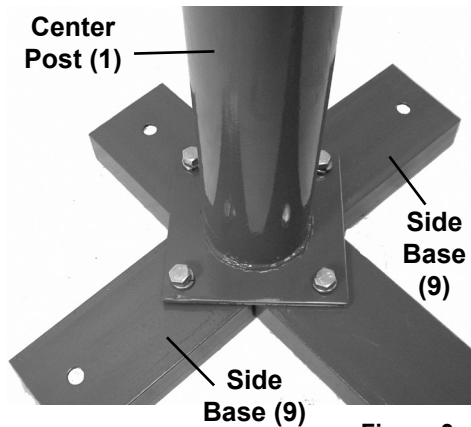

Figure 3
- Set each of the Side Bases (9) along either side of the Post Base until the holes align. Fasten together using the Hex Bolts (6), Washers (11), and Nuts (12). See Figure 3, below.